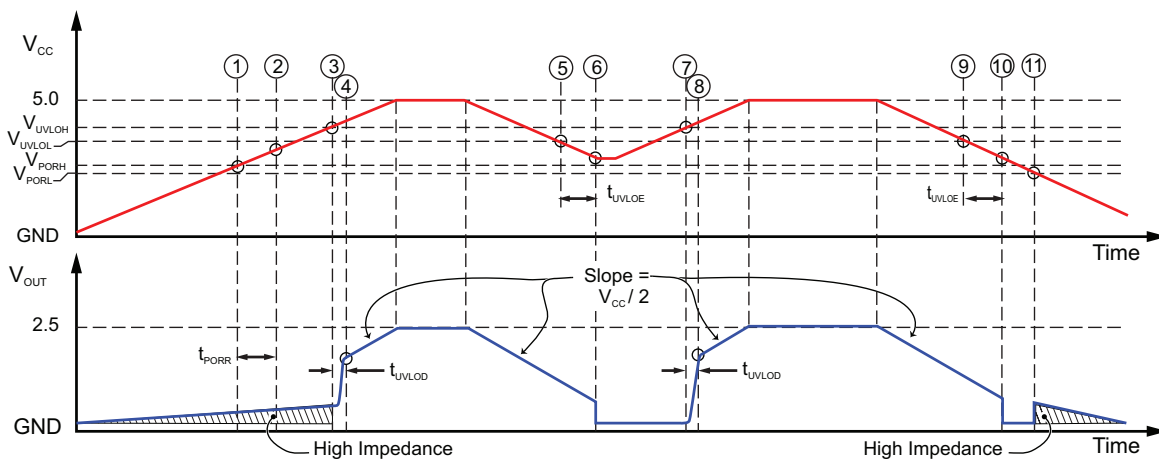
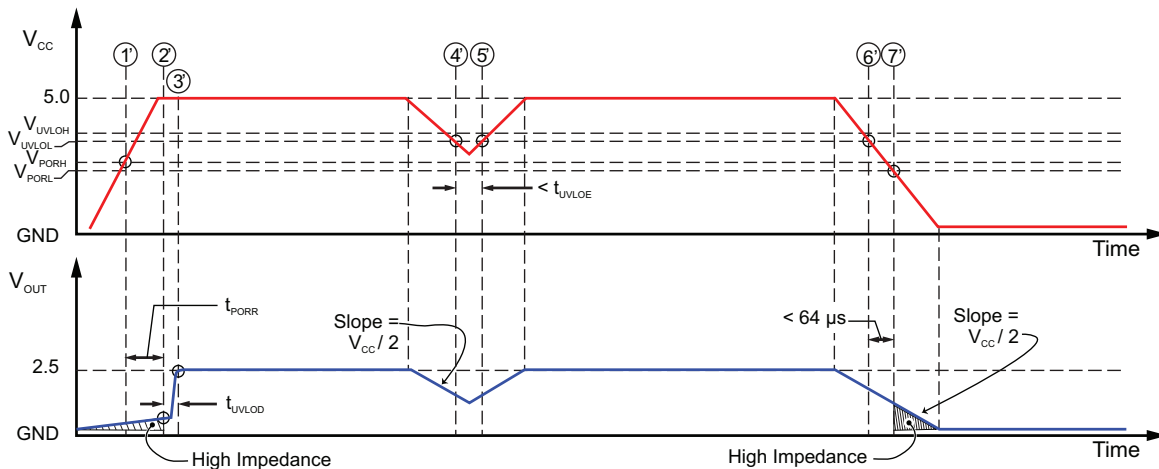

Figure 11: POR and UVLO Operation – Slow Rise Time Case
Figure 12: POR and UVLO Operation – Fast Rise Time Case
- Power-Up** At power-up, as V_{CC} ramps up, the output is in a high-impedance state. When V_{CC} crosses V_{PORH} (location [1] in Figure 11 and [1'] in Figure 12), the POR Release counter starts counting for t_{PORR} . At this point, if V_{CC} exceeds V_{UVLOH} [2'], the output will go to $V_{CC}/2$ after t_{UVLOD} [3']. If V_{CC} does not exceed V_{UVLOH} [2], the output will stay in the high-impedance state until V_{CC} reaches V_{UVLOH} [3] and then go to $V_{CC}/2$ after t_{UVLOD} [4].